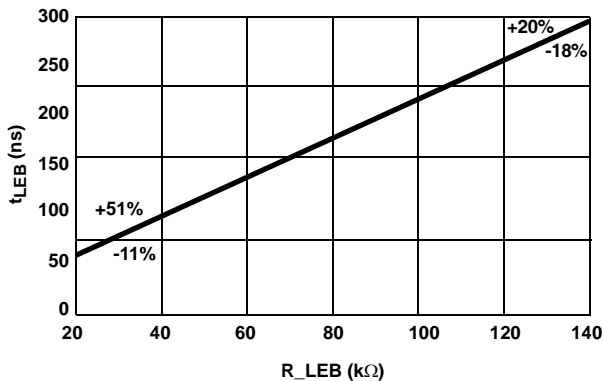

FIGURE 8. R\_LEB vs t\_LEB
- The blanking time can be estimated with Equation 9, whose relationship can be seen in Figure 8. The percentages in the figure are the tolerances at the two endpoints of the curve.